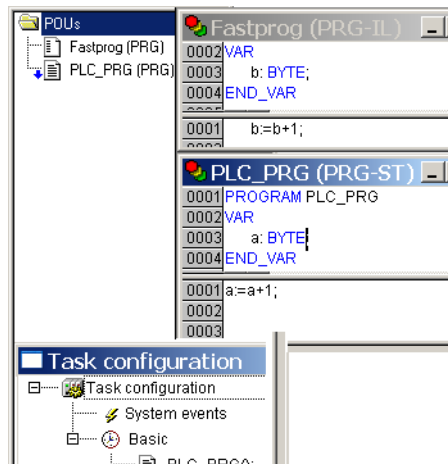

Figure 74: PLC and Task configuration
- ▶ Create the POU’s “PLC\_PRG” and “Fastprog” as shown in Figure 74.